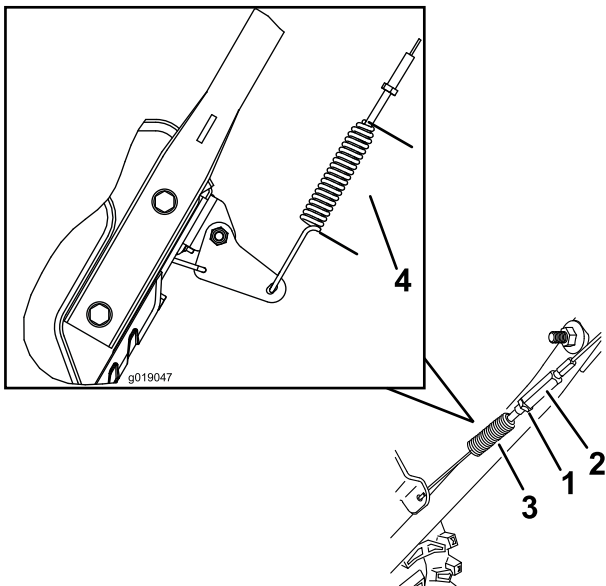

Figure 40
3. Loosen or tighten the turnbuckle to adjust the spring length to 2.75 inches (7 cm) (Figure 40)
4. Tighten the jam nut (Figure 40), ensuring there is slight tension on the cable.